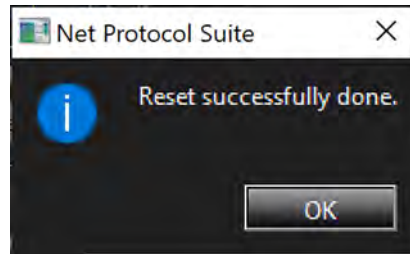

Figure 3.49: Successful Reset Prompt
- Reset message window pops up when successful (Figure 3.49)